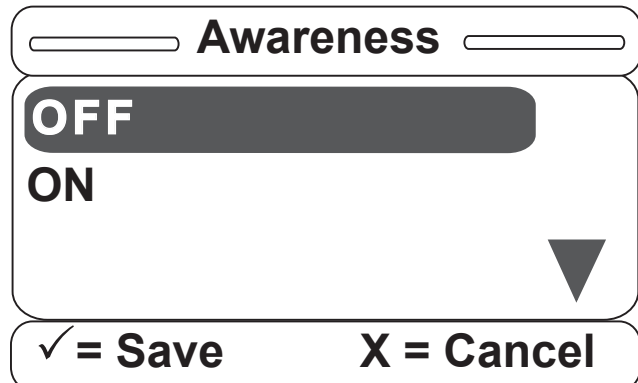

Figure S-15
15. Once the Awareness item is selected, the screen in Figure S-15 will be displayed. You can set the Awareness option to OFF or ON. Hit “Enter” on the footboard panel to make your selection or “Exit” to cancel. **Note that if Bed Exit was set to OFF, Awareness will then automatically be set to OFF as well. It cannot be set to ON unless either kind of Bed Exit was previously chosen.**